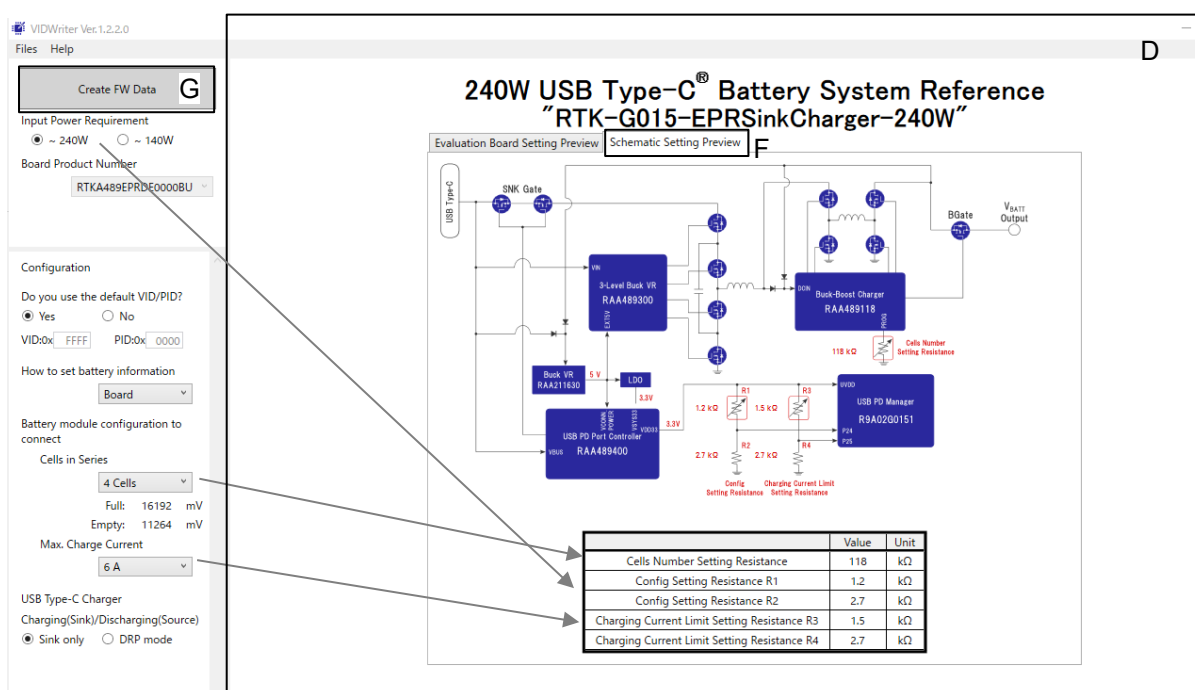

Figure 15. Main Window for VIDWriter 1.2.2.0 when Press Schematic Setting
- Press the **Schematic Setting Preview** F tab in field D and the recommended turnkey schematics with appropriated parameters are displayed as shown in Figure 15.